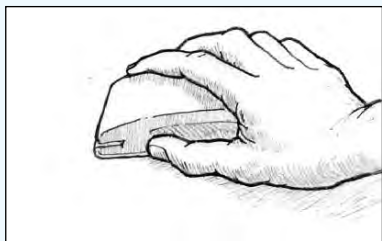

Figure 32 Sand to a smooth finish.
3. Sand to a smooth finish (*Figure 32*). If there are runs or sags, begin sanding with 80-grit paper to remove the highest areas. Sand until the surface feels and looks fair. Complete sanding with the appropriate grit for the type of coating to be applied - check coating instructions. Paint adhesion partly relies on the mechanical grip of the paint keying into the sanding scratches in the surface of the epoxy. If a high-build or filling primer is to be applied, 80-100 grit is usually sufficient. For primers and high-solids coatings, 120-180 grit may be adequate. Finishing with 180 grit paper is often recommended for coatings with high-gloss finishes. Grits finer than this may not provide enough "tooth" for good adhesion and may promote sags and runs. Always follow the paint manufacturer's recommendations for surface preparation. Wet sanding is preferred by many people because it reduces sanding dust and in addition, Steps 2 and 3 above become one operation.